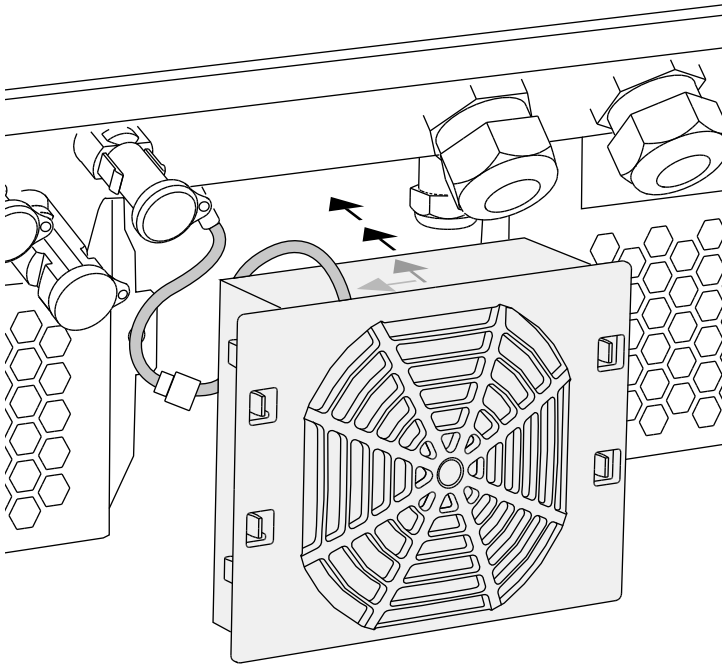

Fig. 61: Fan installation
- The fan must be correctly installed in the fan frame (air flow direction). **Fig. 61**